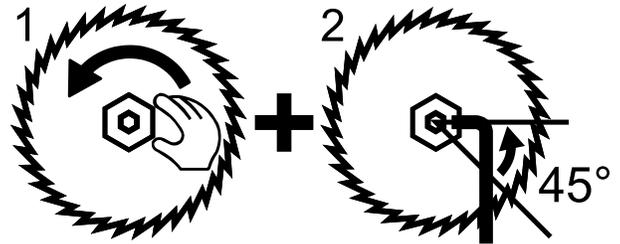

Figure 21 – Tightening Blade Bolt
7. Press the oil plug/lock button and hand tighten the saw blade bolt by rotating counterclockwise, then turn an additional 45° (1/8 turn) using the supplied wrench, see Figure 21. Do not overtighten the bolt – the washers and bolt functions as a clutch to protect the tool.